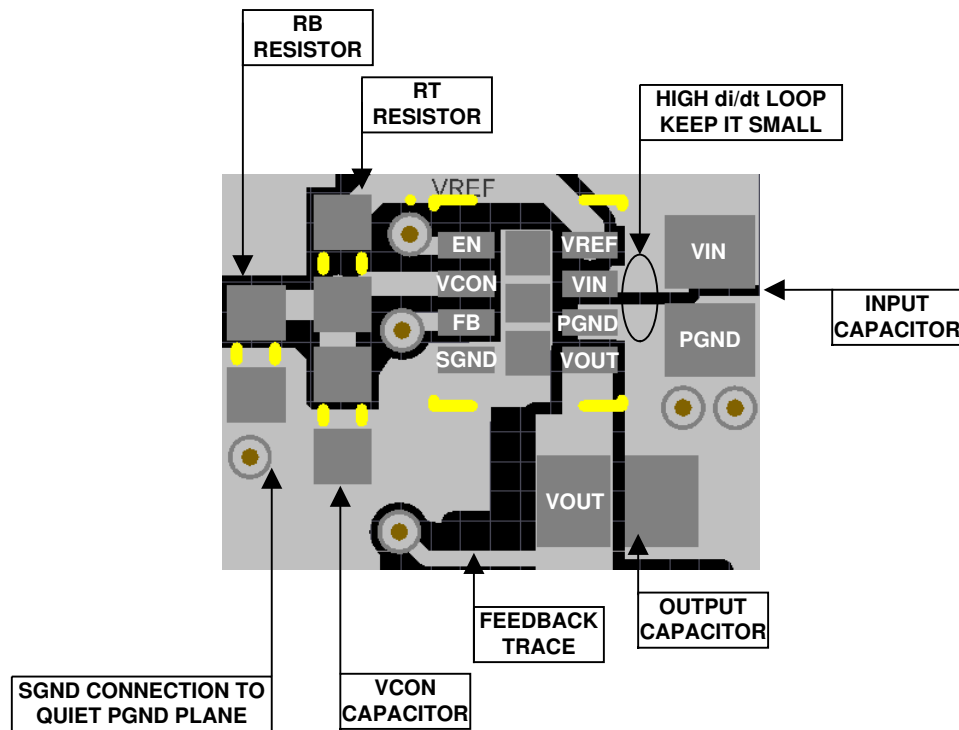

Figure 8-26. Example Top Layer Board Layout
The LMZ10501 integrates the inductor and simplifies the DC/DC converter board layout. Refer to the example layout in Figure 8-26. There are a few basic requirements to achieve a good LMZ10501 layout.
2. Place the  $V_{\text{CON}}$  filter capacitor  $C_{\text{VC}}$  and the  $R_{\text{B}}$   $R_{\text{T}}$  resistive divider as close as possible to the  $V_{\text{CON}}$  and SGND pins. The  $C_{\text{VC}}$  capacitor (not  $R_{\text{B}}$ ) must be the component closer to the  $V_{\text{CON}}$  pin, as shown in Figure 8-26. This allows for better bypass of the control voltage set at  $V_{\text{CON}}$ .